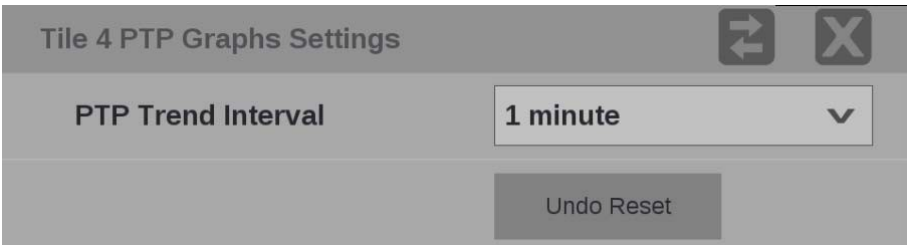

Figure 161: PTP Graphs application settings menu
**Trend Interval.** The PTP Trend Interval setting is the extent of the horizontal axis on the graph. Use the drop-down menu to change the interval to 1 minute, 5 minute, 10 minute, 30 minute, 1 hour, 3 hour, 6 hour, 12 hour, or 1 day. (See Figure 161.)